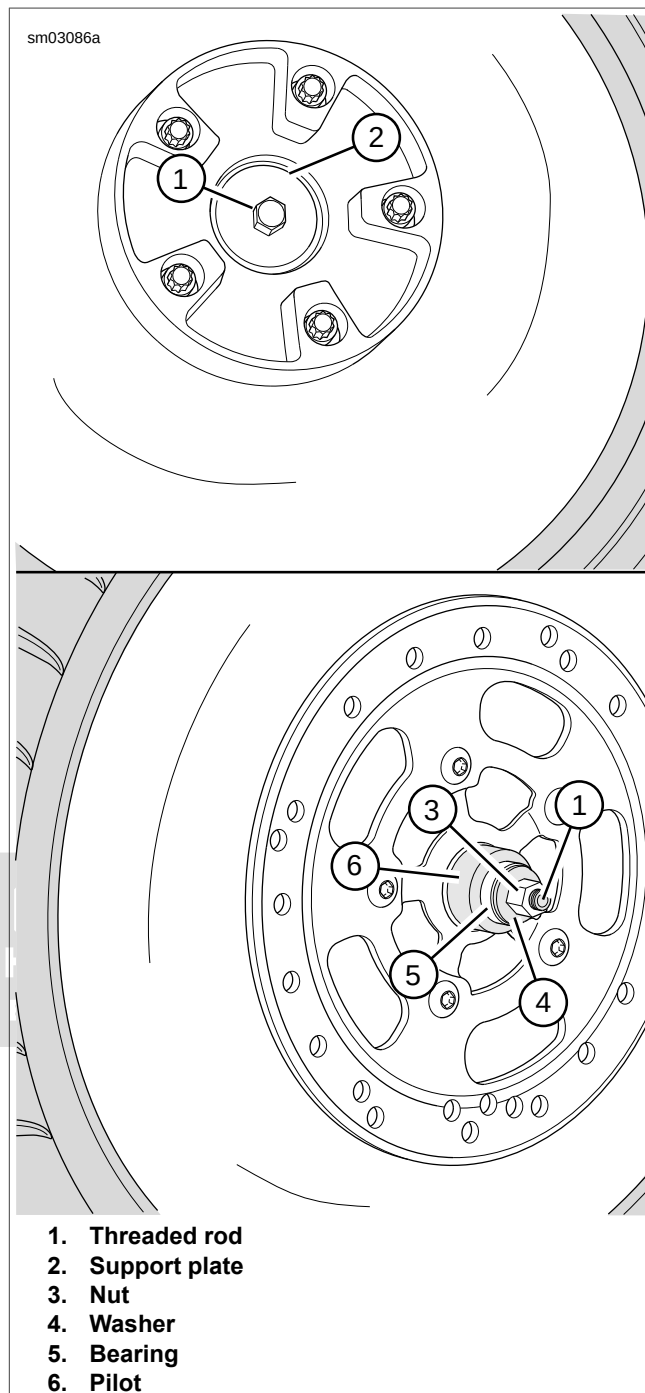

Figure 2-70. Installing Wheel Bearing
- b. See Figure 2-70. Place threaded rod (1) through support plate (2).
- d. Place the **new** bearing on threaded rod (1) with lettered side outward. If ABS equipped, slide encoder bearing down rod with red-side in and greenish tan-side out.
- e. Install pilot (6), bearing (5), washer (4) and nut (3) over rod.
2. Hold hex end of threaded rod (1) and turn nut (3) to install bearing. Bearing will be fully seated when nut can no longer be turned. Remove tool.